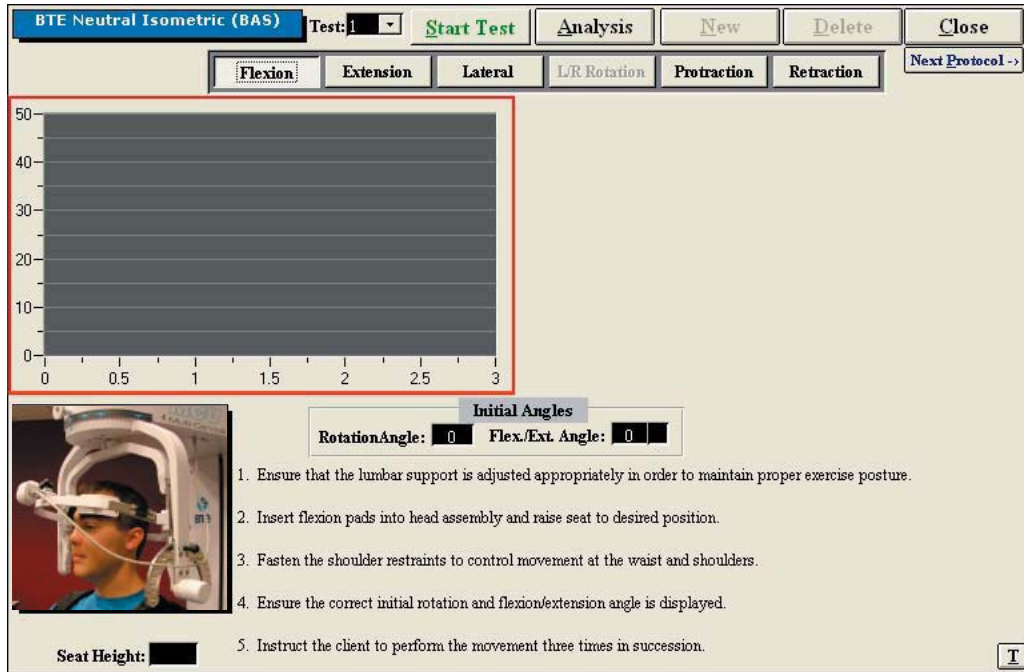

Figure 6-79. Cervical Strength - Flexion Test
Step 1. Select the **Flexion** icon. The Flexion Testing screen will appear (Figure 6-79). Note that the screen shown in the figure may differ from that on the computer.